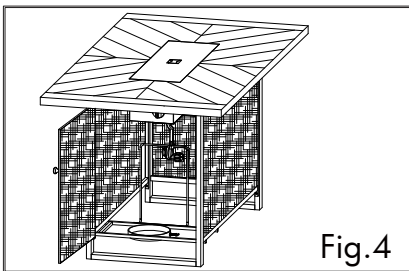

Fig.4
- 1 - Open the door and control valve outside. See Fig 4.